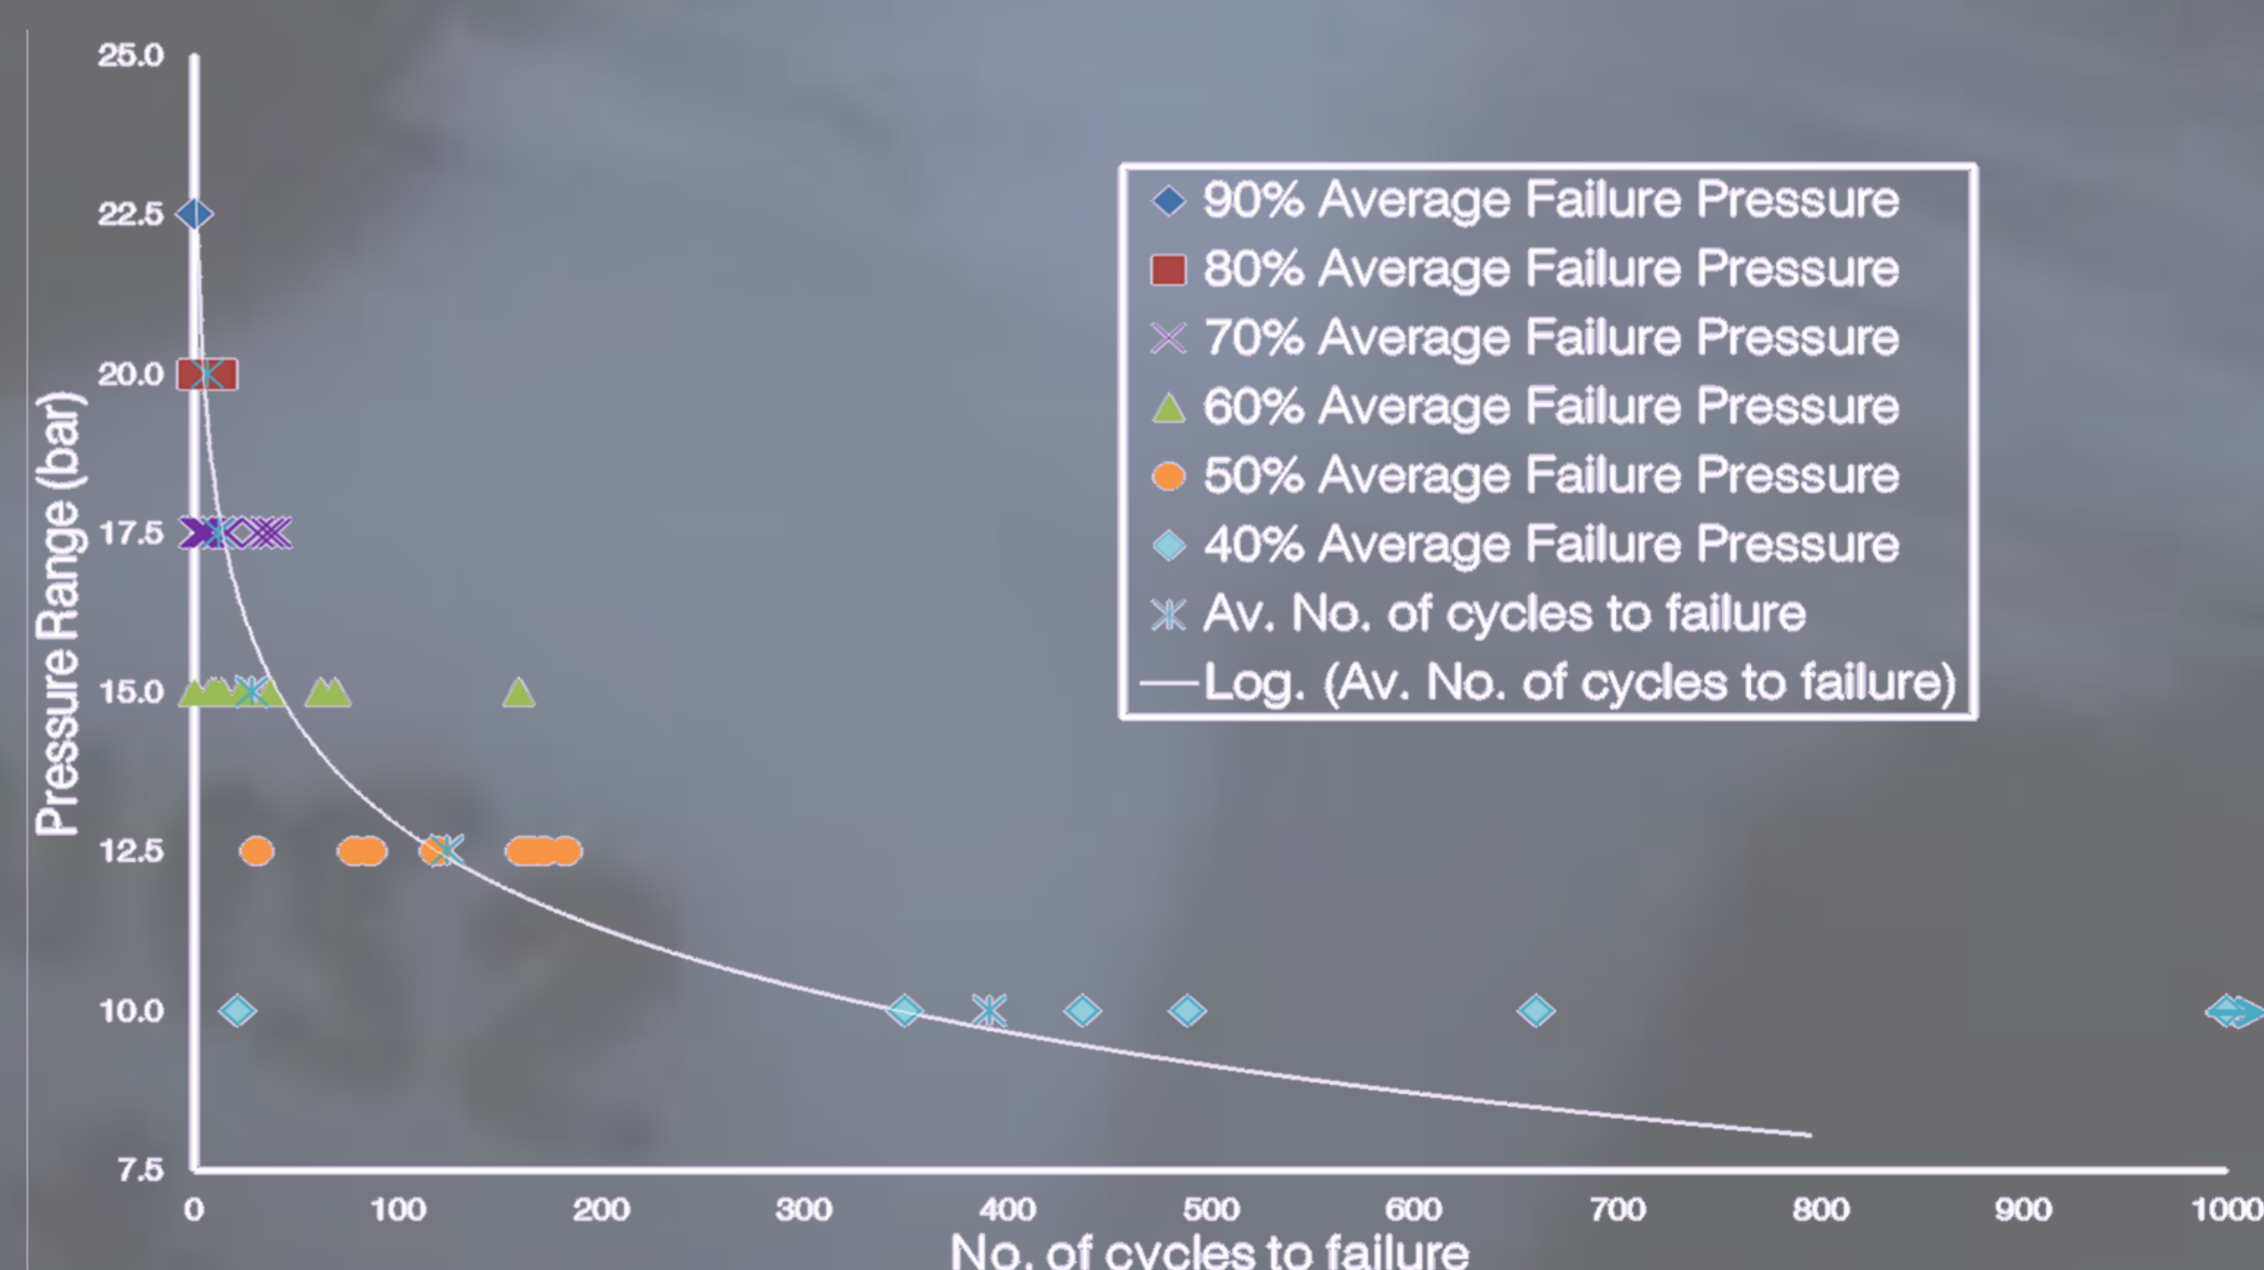

Figure 3. Pressure (in bar) Vs. No. of cycles to failure curve.
- Results from testing programme (Figure 3) suggest that the spread increases as the pressure range decreases.